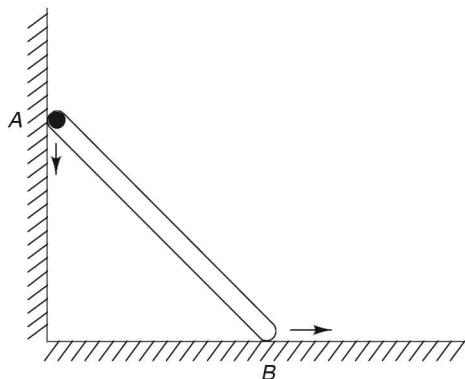

FIGURE 13.11 Sliding of a slender bar.
- (d) Sliding of a ladder or a slender bar (see Figure 13.11).